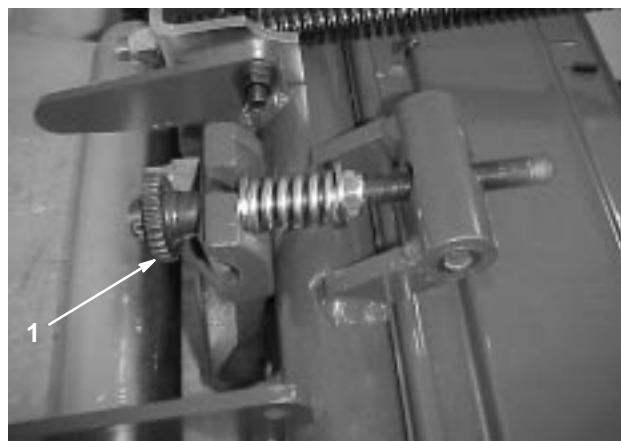

Figure 21
1. Loosen reel to bedknife contact by turning the bedknife adjusting knob (Fig. 21) counter-clockwise until no contact exists.